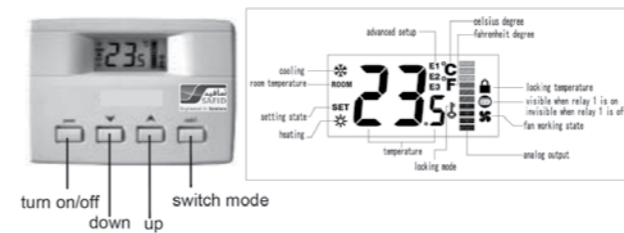

Figure 3. Connection
- Connect wires to terminal strip. Wiring diagrams is as figure 2 and figure 3. K1 means the 1st stage relay, and K2 means the 2nd stage relay. K2 is useless for F2000LV-A01, K1 and K2 are useless for F2000LV-A-N.